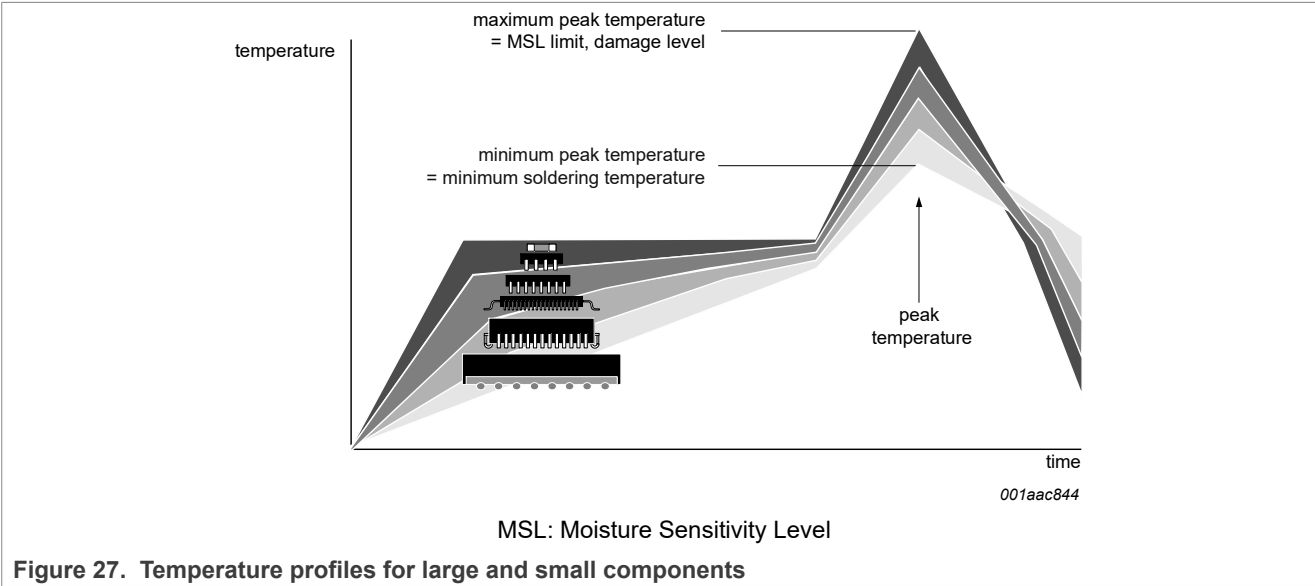

Figure 27. Temperature profiles for large and small components
- Lead-free versus SnPb soldering; note that a lead-free reflow process usually leads to higher minimum peak temperatures (see Figure 27) than a SnPb process, thus reducing the process window
Studies have shown that small packages reach higher temperatures during reflow soldering, see Figure 27.